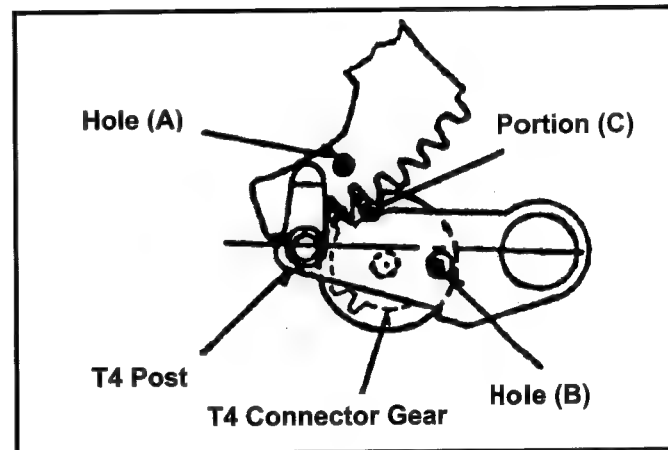

Fig.6-23-1 Phase of T4 Post
2. Confirm that the hole (B) of T4 connection Gear was matched to hole of T4 post as shown in figure 6-23-1.
3. Confirm that the portion (C) of T4 connection Gear and hole (A) , which are located as shown in figure 6-23-1.